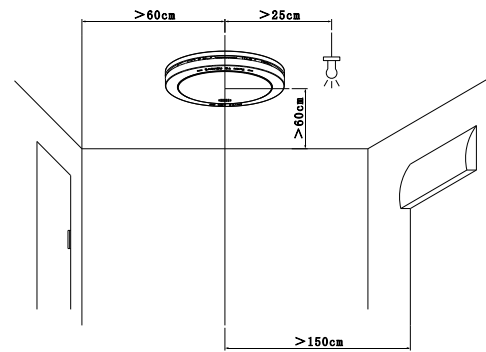

Figure 4
2. The alarm must be more than 60cm away from the surrounding wall, more than 25cm away from the lamp (light emitting equipment), and more than 150cm away from the supply/outlet (Figure 4), otherwise it will affect the fire alarm effect.